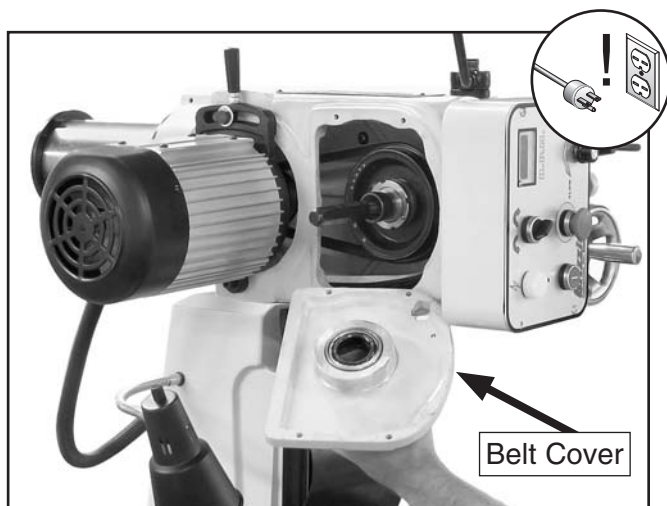

Figure 66. Belt cover removal.
- Using a 5mm hex wrench, remove the belt cover by pulling the four cap screws (**Figure 66**).